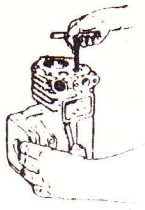

Fig. 3. Cleaning out Valve Guide
4. Run reamer through valve guide to clean out foreign material (Fig. 3). A .250 to .251 (1/4") reamer should be used on all Clinton engines. Clinton Part No. TL-977, 1/4" reamer, or similar type reamer should be used, except on the Red Horse series, which uses 5/16".